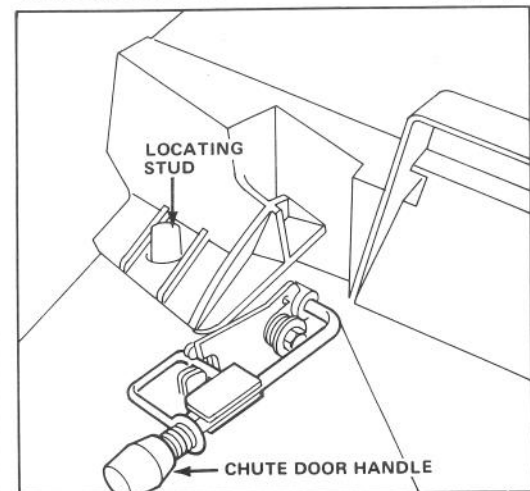

Figure 8
2. Assure chute door handle is fully forward and lockout lever is released into latch (Fig. 8).
3. **INSTALLING BAG** — Slide hole in bag frame onto retaining collar on housing (Fig. 8) and set rear of bag frame onto support rod on handle.
5. **EMPTYING BAG** — Stop engine and wait for blade to stop. Move chute door handle forward until it locks in the latch (Fig. 8). Grasp handle at front and rear of bag and lift bag off mower. Gradually tip bag forward to empty clippings.